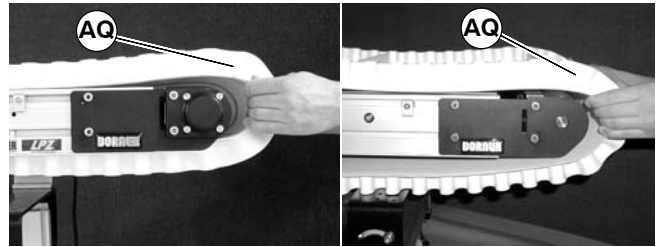

Figure 32
3. Install belt (AQ of Figure 32) on conveyor. Lift conveyor slightly to avoid pinching belt on temporary support stands.